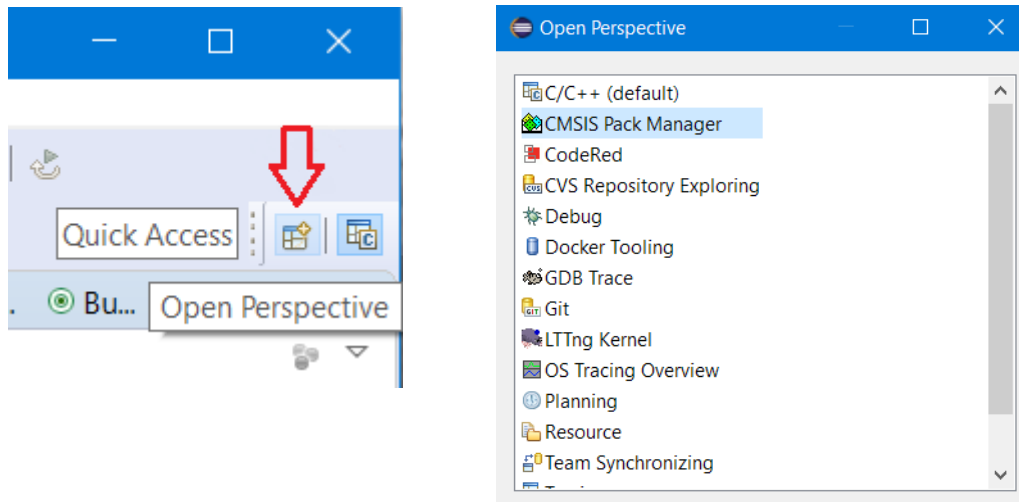

Figure 2. Opening the CMSIS Pack Manager Perspective
3. On the top right corner of the Workbench perspective, click on the Open Perspective icon, select **CMSIS Pack Manager**, and click **Open** (see Figure 2).